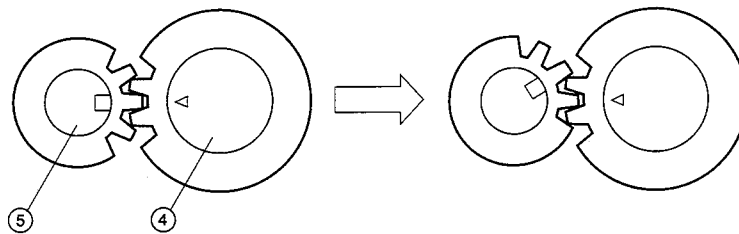

Figure 3-5 Column Displacement Adjustment B
1. Remove the stop ring ③, then remove the idler gear ④.
2. Turn the motor gear ⑤ one tooth, then install the idler gear ④ and the stop ring ③. This operation changes the relative the positions of the idler gear ④ and the motor gear ⑤ (the relation between the  $\Delta$  on the idler gear and the  $\square$  on the motor gear) as Figure 3-5 shows.